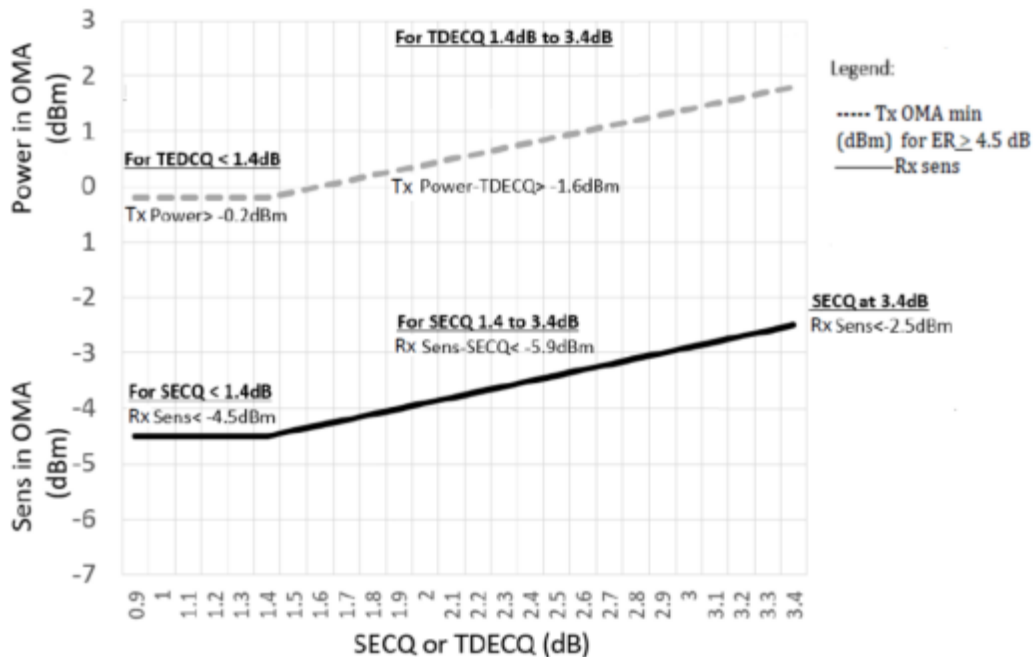

Figure 4. Illustration of Receiver Sensitivity Mask for 800G-DR8+
6. Receiver sensitivity (OMA_{outer}) is informative and is defined for a transmitter with a value of SECQ up to 3.4 dB. Receiver sensitivity should meet Equation (1), which is illustrated in Figure 4.